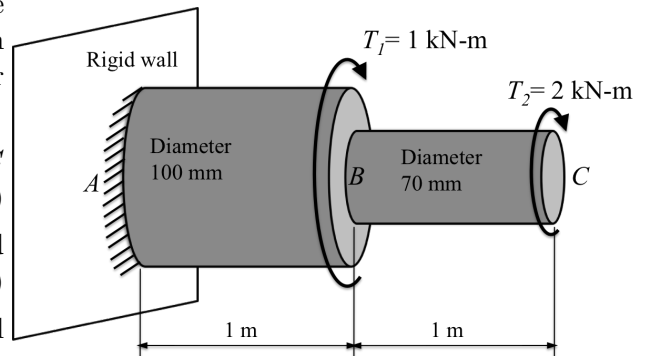

Figure 3
3. A 2 m long stepped cylinder of solid circular cross section is rigidly fixed to a vertical wall as shown in Figure 3. The cylinder is subjected to torques  $T_1 = 1$  kNm and  $T_2 = 2$  kNm and the shear modulus of the cylinder material is,  $G = 30$  GPa.
- (a) Calculate the angles of twist for sections AB, BC and the total angle of twist of the cylinder. (6)
- (b) Find the maximum shear stress in the cylinder and identify the section in which it will occur. (6)
- (c) Determine the maximum and minimum principal stresses in section BC. (4)